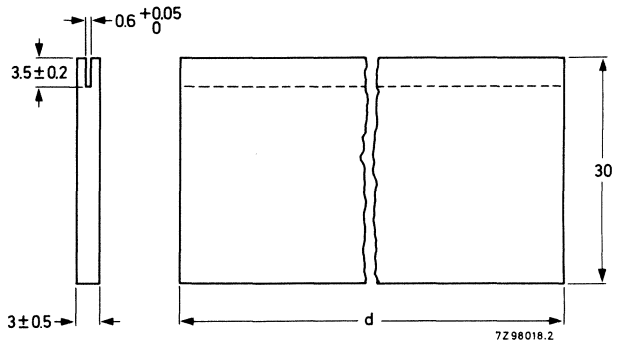

Fig. 11. For dimension d, see Table 2.
4. Push in both combs until the shoulder of the pins touches the panel using tool shown in Fig. 11.
8. Insert tool (Fig. 11) on the combs and twist to remove.